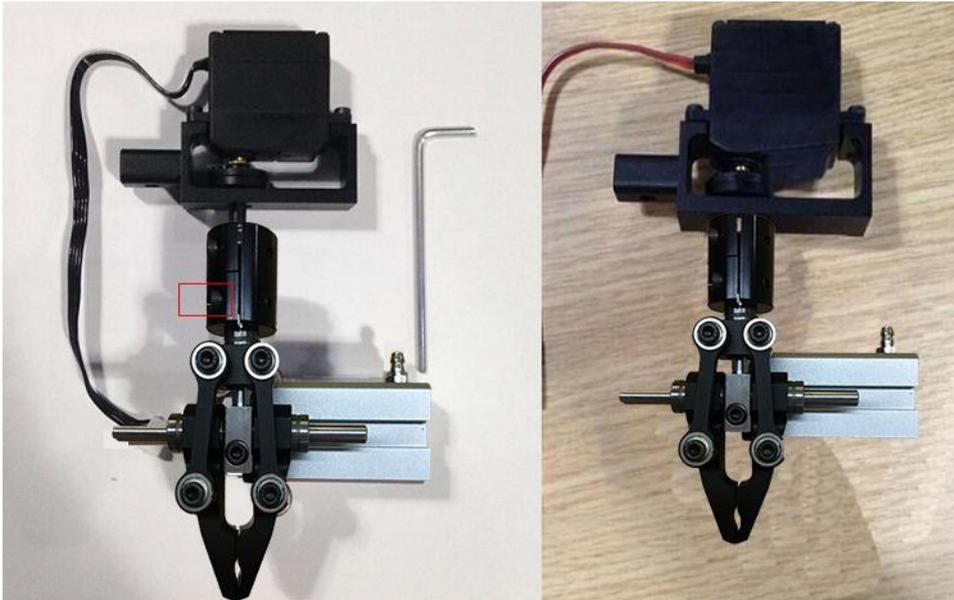

Figure 5.65 Install a gripper kit
- Step 2** Install a gripper kit to the servo with a 2.5mm hexagon wrench, as shown in Figure 5.65.